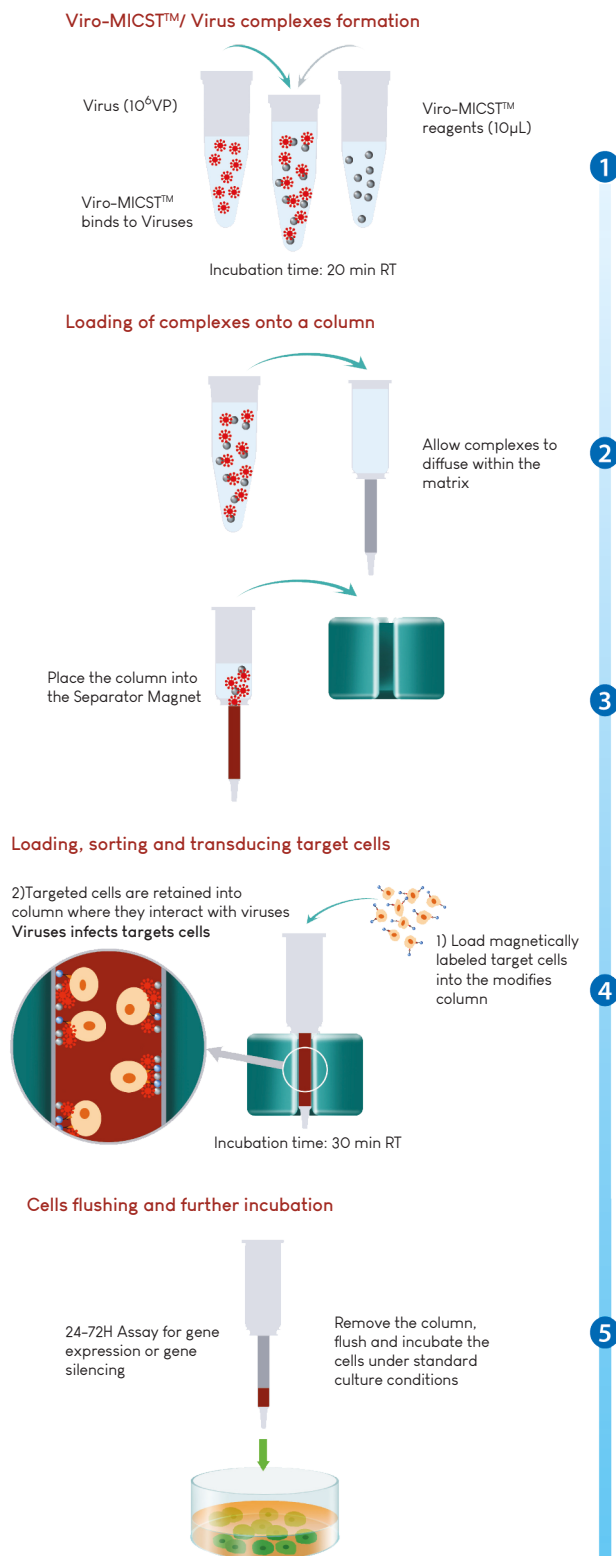

Fig.1 Example protocol for transducing  $10^6$  cells on a MACS® MS column\* with a MOI of 1
**Figure 1.** Adapted transfection reagents for each CRISPR/Cas9 approach. For generation of cellular models, Cas9 and the designed sgRNA (a chimeric RNA containing all essential crRNA and tracrRNA components) can be introduced into the target cells. The type II CRISPR/Cas system only needs a single Cas protein that can be expressed into target cells by: (1) plasmid transfection, (2) direct delivery of the active Cas9 endonuclease, (3) transfection of mRNA encoding for Cas9 or (4) by viral vectors transduction.
- 2- Viro-MICST™ procedure. This step allows reaching high purity and simultaneously infecting the target cell population (cf. fig.1)